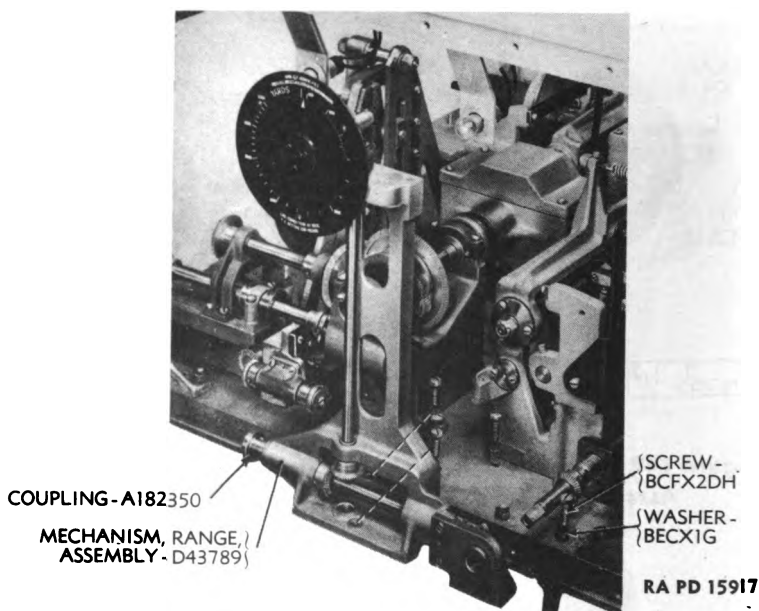

Figure 151 — Removing Range Mechanism From Director
a. Remove the range handwheel. Remove the three screws holding the range mechanism to the base, also the one screw holding the range handwheel bracket assembly B173075 to the base (fig. 151). Set the slot on the right-hand coupling A182350 to a horizontal position; slide the range mechanism slightly to the right and then to the rear and out.